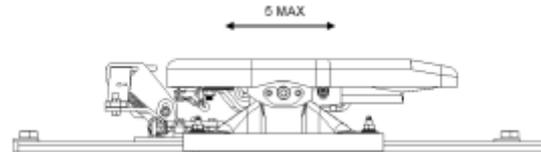

Figure 9 - Limits of movement between carriage and rails
8. Check the slider for wear. There should be a maximum of 5mm total horizontal movement between the carriage and the rails (see Figure 9).